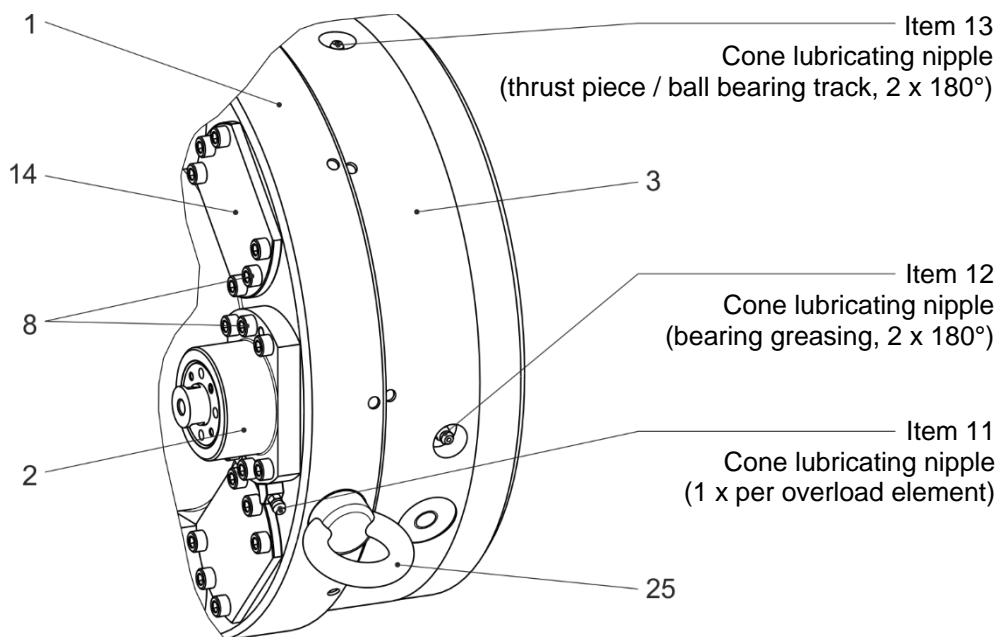
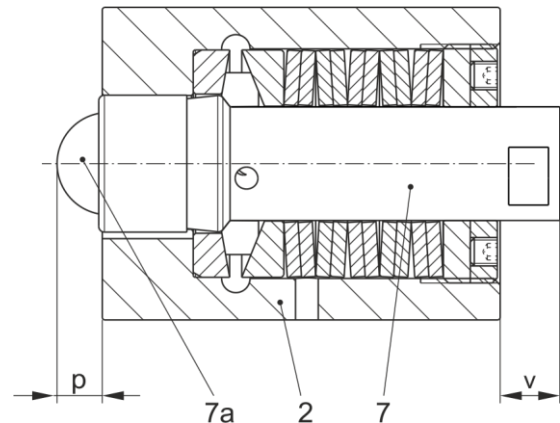
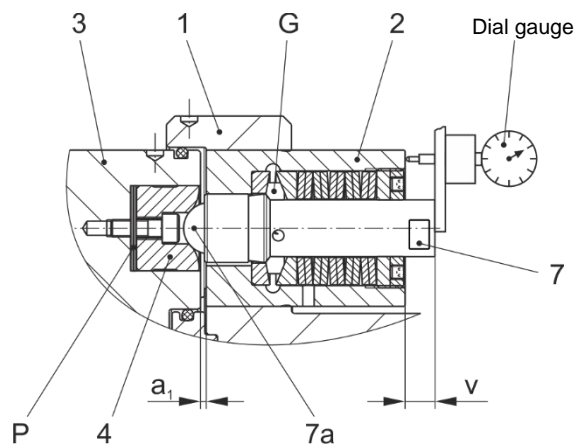
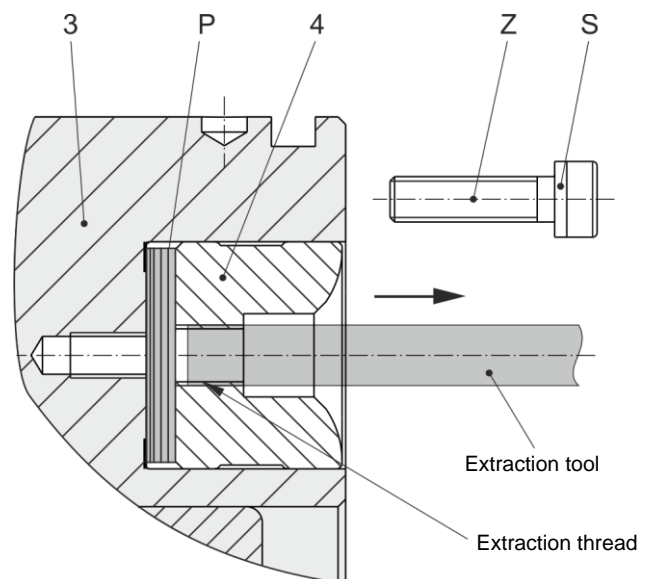

Fig. 3
Fig. 4
Fig. 5
Fig. 6
- ❑ The distance dimension "a1" acc. Table 3 must be given (Fig. 5 / air gap between the hub (1) and the pressure flange (3), on engaged elements).
- ❑ Determine the pre-tensioning using difference dimension measurement "v" (see Figs. 4 and 5). Dimension "v" is the distance from the bolt end (7) to the facing side of the overload element (2), see Fig. 3.
- ❑ Pre-tension the element by placing shim rings (P) under the thrust piece (4).
- ❑ For de-installation of the thrust piece (4), please see Fig. 6.
1. De-install the overload element (2).
2. Move the bolts (Item 7) up against the control segments (G) by applying axial force onto the ball (7a), e.g. by tapping them with a plastic hammer.
3. Using the inspection dimension "p" (see Table 3 and Fig. 4), the axial contact of the bolt (7) can be checked.
4. Measure and note the bolt excess length "v" (Fig. 4) on the de-installed overload element (2).
5. Mount the thrust piece (4) and the overload element (2) into the adaptor bores using a tightening torque of 9 Nm.
6. Measure the bolt excess length "v" (Fig. 5) again and compare it to the noted value. The difference dimension equals the bolt pre-tension.
7. In order to correct the pre-tension, both the overload element (2) and the thrust piece (4) must be de-installed again.
8. Now the required pre-tension acc. Table 3 can be set by adding or removing shim rings (P) under the thrust piece (4).